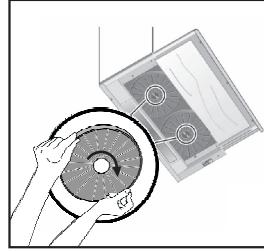

Fig. 6: CARBON FILTER
3. Place the carbon filter in its housing. Fig. 6
4. Rotating the carbon filter clockwise, ensure that it is completely fit. Fig. 6